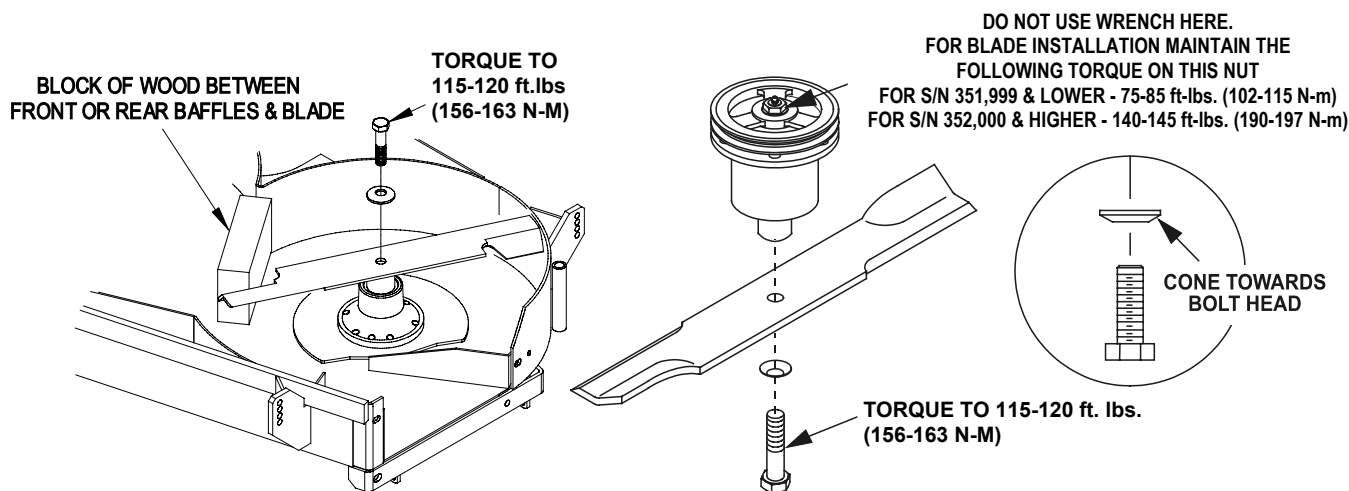

FIGURE 5
- h) Re-install the blades (if they were removed) by placing a block of wood between the front or rear baffles and the blade then torquing the blade bolts to 115-120 ft. lbs. Be sure the spring disk washer cone is installed toward the bolt head (See Figure 5).